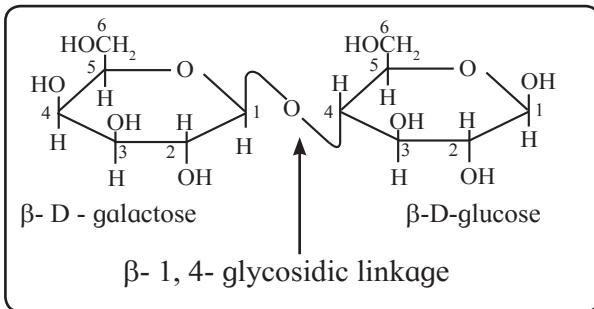

Fig. 14.10 : Haworth formula of lactose
c. **Lactose** : Lactose ($C_{12}H_{22}O_{11}$) is a disaccharide present in milk. It is formed from two monosaccharide units, namely D-galactose and D-glucose. The glycosidic linkage is formed between C-1 of β -D-galactose and C-4 of glucose. Therefore the linkage in lactose is called β -1,4-glycosidic linkage. The hemiacetal group at C-1 of the glucose unit is not involved in glycosidic linkage but is free. Hence lactose is a **reducing sugar**. Figure 14.10 shows Haworth formula of lactose.